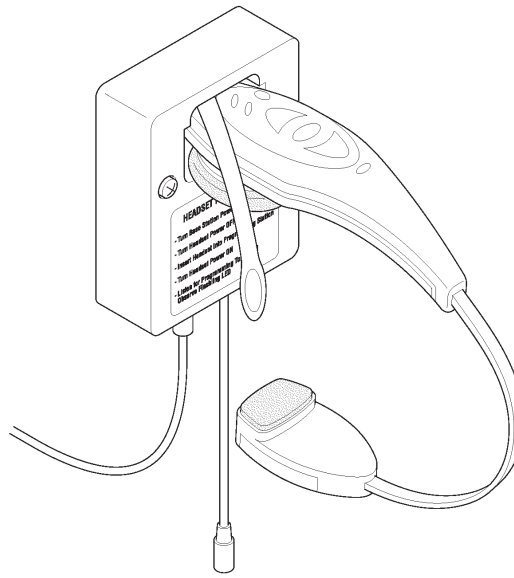

Figure 18.
4. With the headset turned OFF, swing the microphone back, and insert the headset into the programming station with its programming window facing toward the programming cable jacks. See Figure 18.